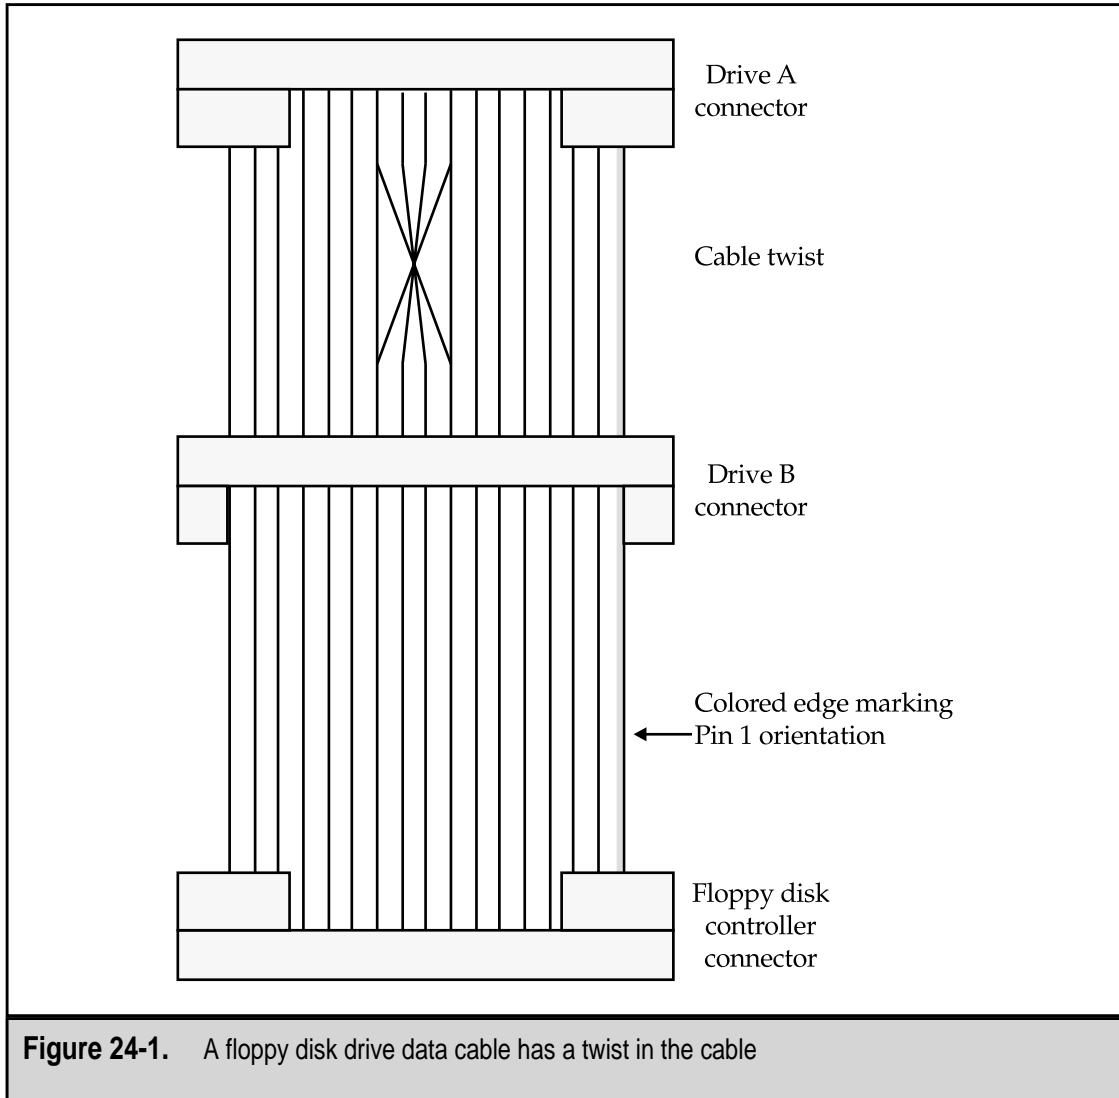

Figure 24-1. A floppy disk drive data cable has a twist in the cable
- **Installing two floppy drives** As a general rule, the A: drive (first floppy disk drive) is installed after (behind) the twist in the cable, and the B: drive (second floppy disk drive) is installed before (ahead) of the twist in the cable. Figure 24-1 illustrates a floppy disk data cable. The floppy disk drives may have a jumper to configure it for the twist or without the twist. Check the cable and the drives against the drives' documentation.